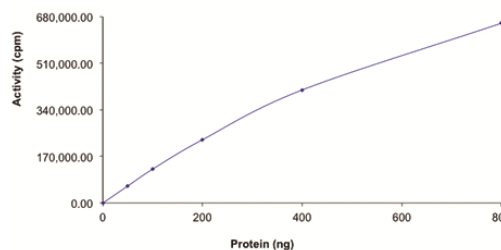

Figure 2: Enzymatic assay results. The specific activity of Src was determined to be 112 nmol/min/mg as per activity assay protocol (on reverse).
- **Active Kinase** - Active Src (0.1 µg/µL) diluted with Kinase Dilution Buffer IV and assayed as outlined in Figure 2.